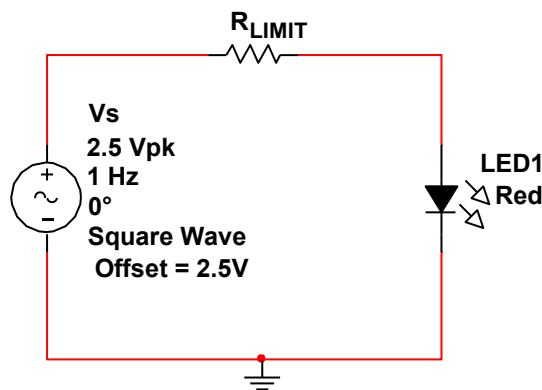

Figure 6.2 – Blinking LED Circuit
3. **Replace** **Vs** with a square wave produced by the function generator as shown in **Figure 6.2**.